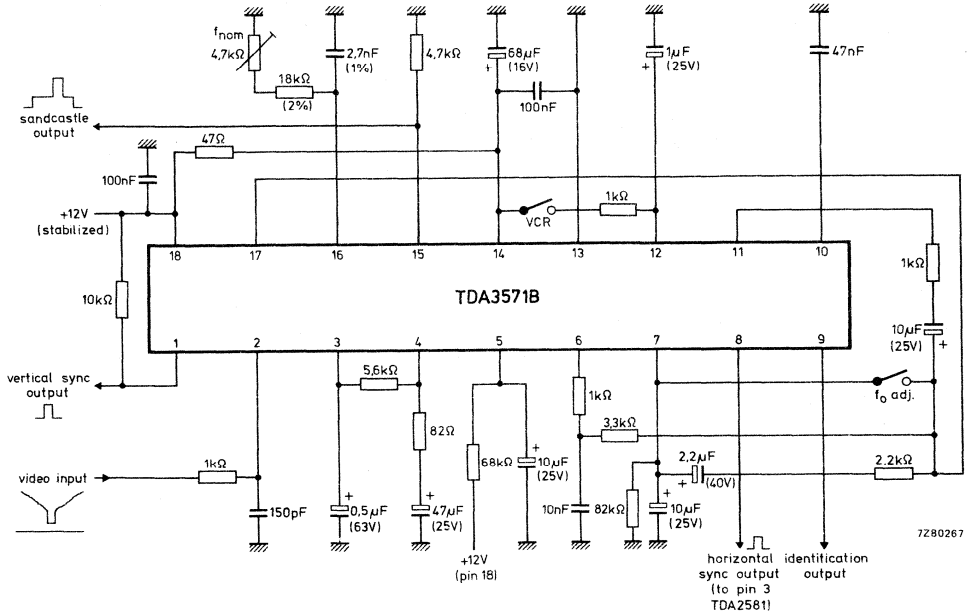

Fig. 3 Typical application circuit diagram; for combination of the TDA3571B with the TDA2581.
**APPLICATION INFORMATION** (see also Fig. 3)
The oscillator can be adjusted when pins 7 and 17 are short circuited (see Fig. 3).